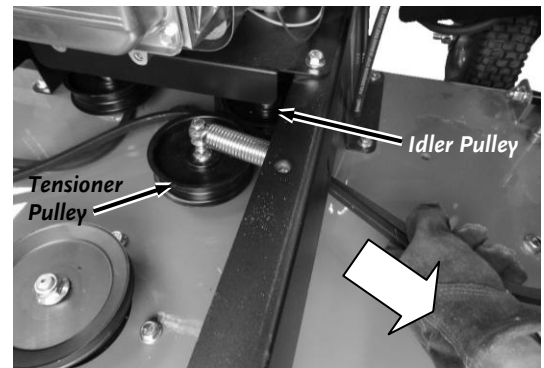

Figure 50
10. **Pro XL60TF model:** Move the Belt up off the other Pulleys and remove the Belt between the Tensioner Pulley and left side Idler Pulley (**Figure 50**).